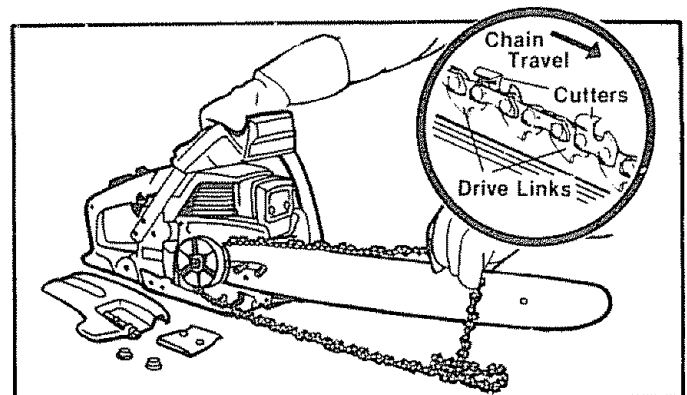

Figure 6
- Hold chain with cutters facing as shown in Figure 6.
- Start at the top of the bar and fit the chain drive links into the groove around the Guide Bar. Figure 6.